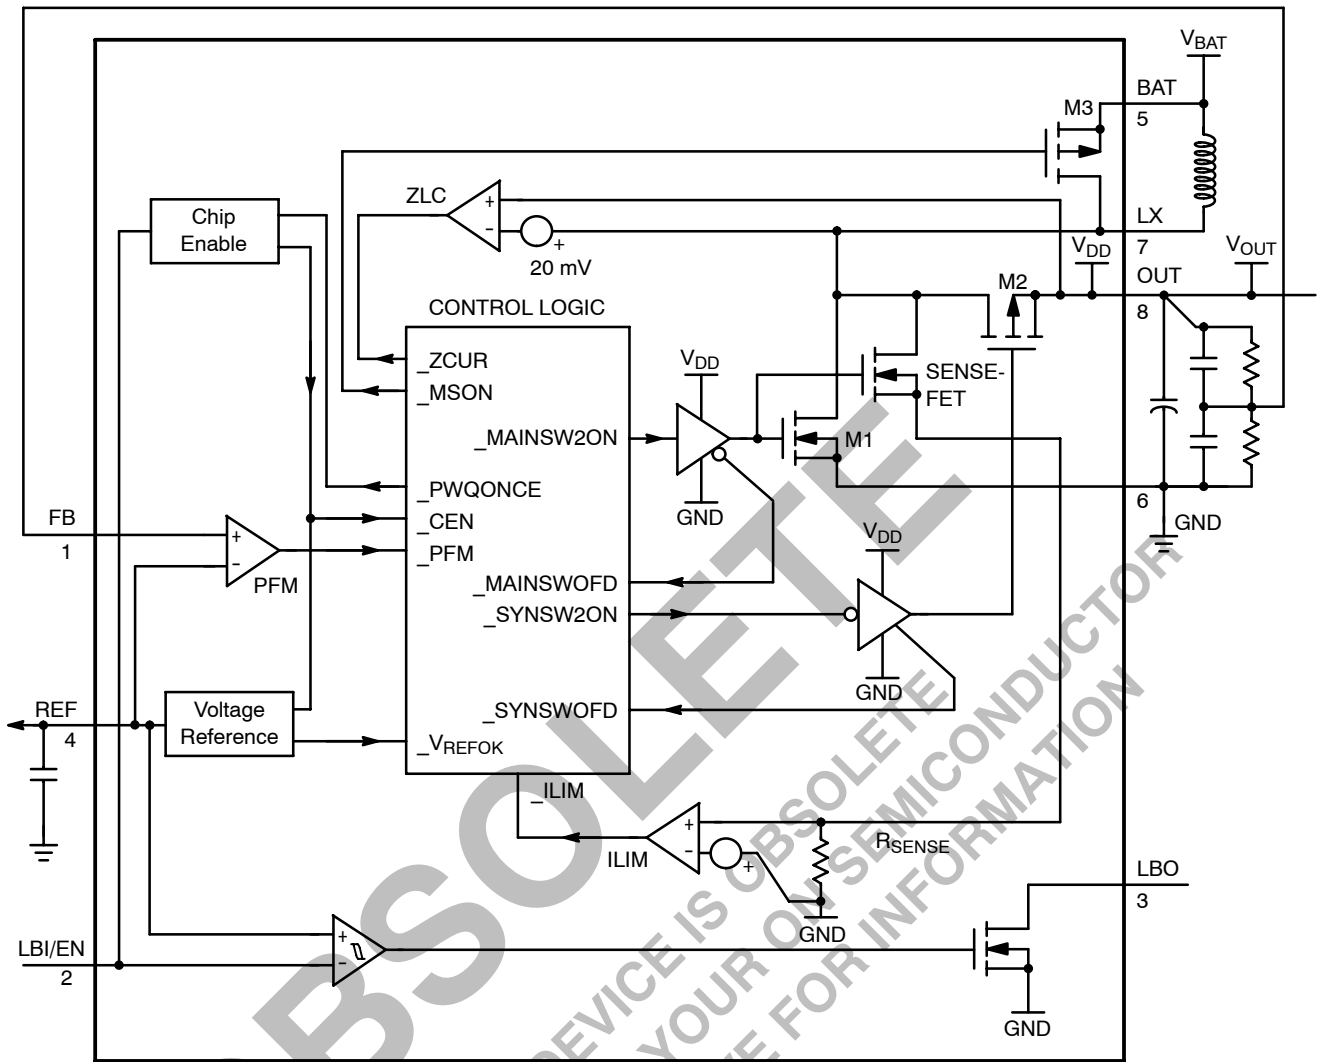

Figure 2. Simplified Functional Diagram
From the simplified Functional Diagram (Figure 2), the output voltage is divided down and fed back to pin 1 (FB). This voltage goes to the non-inverting input of the PFM comparator whereas the comparator's inverting input is connected to REF. A switching cycle is initiated by the falling edge of the comparator, at the moment, the main switch (M1) is turned ON. After the maximum ON-time (typical 1.4 μs) elapses or the current limit is reached, M1 is turned OFF, and the synchronous switch (M2) is turned ON. The M1 OFF time is not less than the minimum OFF-time (typical 0.31 μs), this is to ensure energy transfer from the inductor to the output capacitor. If the regulator is operating at Continuous Conduction Mode (CCM), M2 is turned OFF just before M1 is supposed to be ON again. If the regulator is operating at Discontinuous Conduction Mode (DCM), which means the coil current will decrease to zero before the next cycle, M1 is turned OFF as the coil current is almost reaching zero. The comparator (ZLC) with fixed offset is dedicated to sense the voltage drop across M2 as it is conducting, when the voltage drop is below the offset, the ZLC comparator output goes HIGH, and M2 is turned OFF. Negative feedback of closed loop operation regulates voltage at pin 1 (FB) equal to the internal voltage reference (1.190 V).
From Figure 2, SENSEFET is applied to sample the coil current as M1 is ON. With that sample current flowing through a sense resistor, sense-voltage is developed. Threshold detector (ILIM) detects whether the sense-voltage is higher than preset level. If it happens, detector output signifies the CONTROL LOGIC to switch OFF M1, and M1 can only be switched ON as next cycle starts after the minimum OFF-time (typical 0.31 μs). With properly sizing of SENSEFET and sense resistor, the peak coil current limit is set at 1.0 A typically.